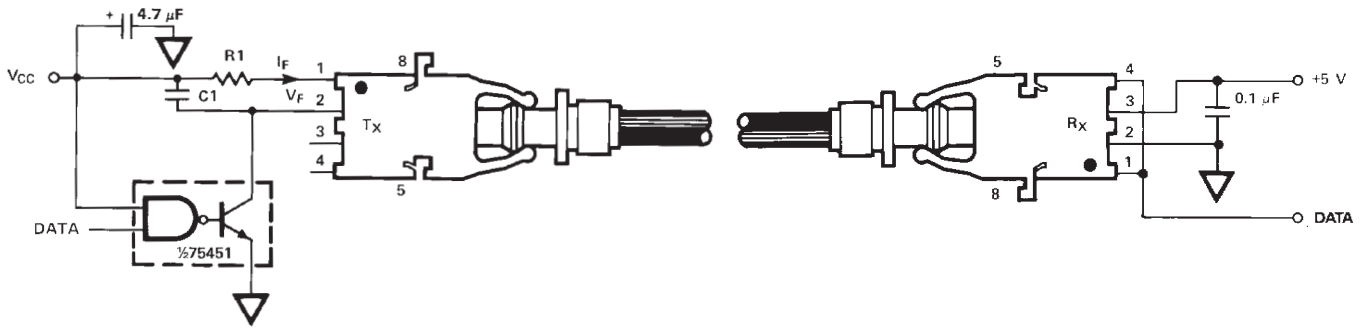

Figure 11. Required 1 Mbd interface circuit
The HFBR-25X2Z receiver cannot be overdriven when using the required interface circuit shown in Figure 11
- The LED drive circuit of Figure 11 is required for 1 MBD operation of the HFBR-25X2Z/25X4Z.